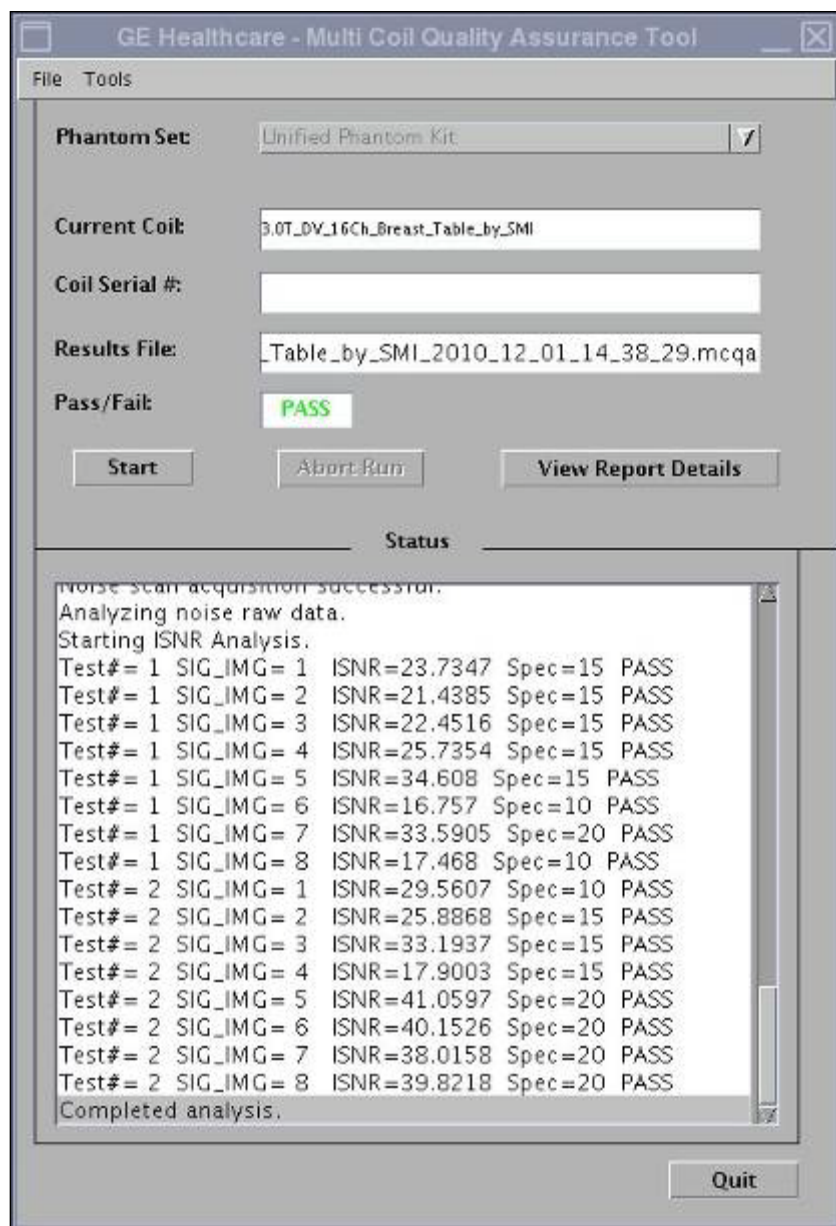

Figure 29: Screen Capture – MCQA Tool Finish
7. Click 'Start', and answer 'Yes' to the dialog box that opens. The MCQA program will run for approximately 10 minutes, and test each channel of the system independently. When the program finishes, the screen capture shown in Figure 29 will display.
8. The MCQA program will display a PASS/FAIL indicator for each image (SIG_IMG in Figure 29) which corresponds to a particular channel on one of the coils tested. If you receive a FAIL indication, check that all coils are connected properly and rerun the test. If the test fails the second time refer to the table below.